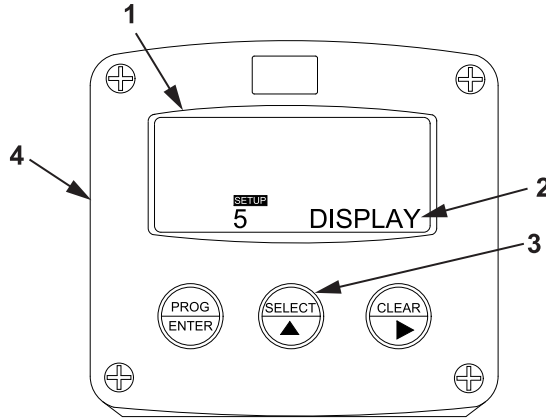

Figure 26. DISPLAY Display.
11. Verify that DISPLAY (Figure 26, Item 2) appears on the display screen (Figure 26, Item 1).
12. Verify default settings for function group DISPLAY (Figure 26, Item 1) as follows:
- a. Press the SELECT key (Figure 26, Item 3) on the tank volume meter monitor (Figure 26, Item 4).